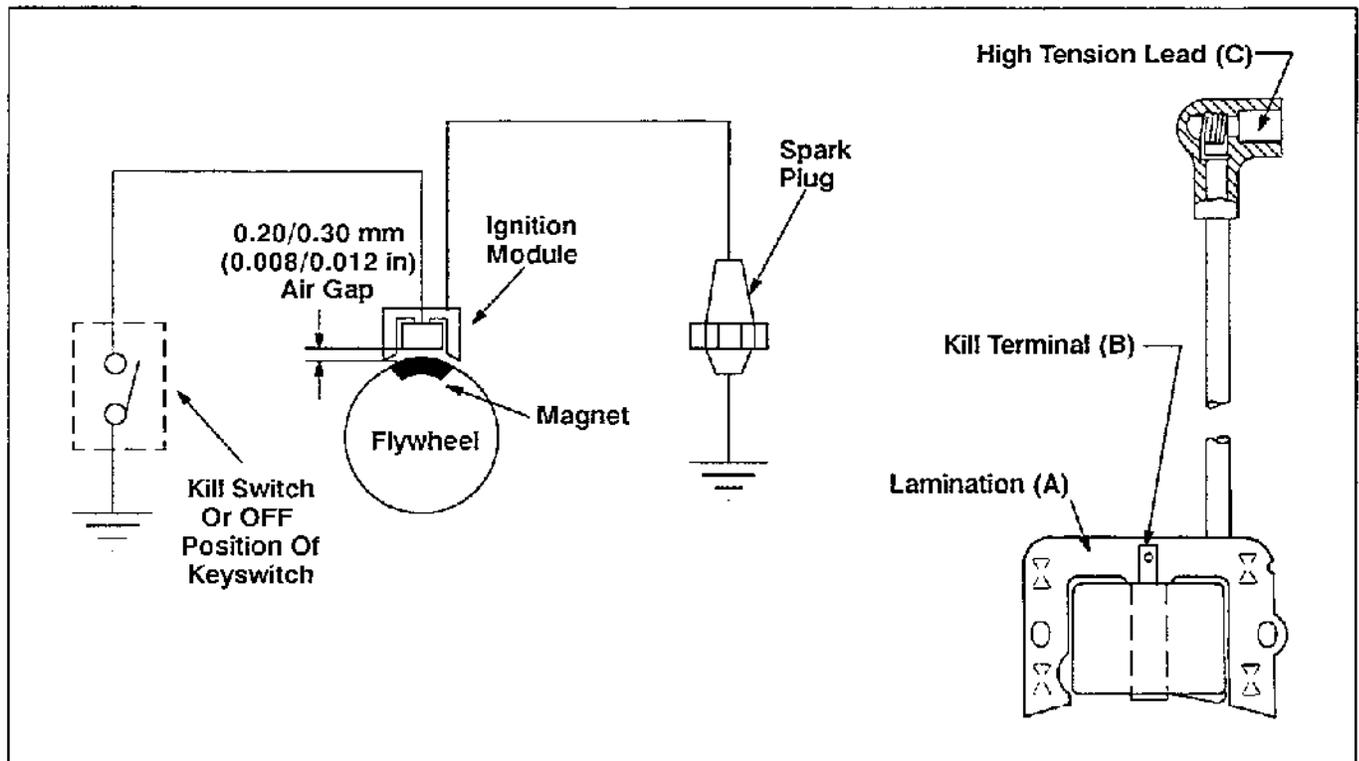

Figure 8-3. Electronic Magneto Ignition System.
<p>4b. Measure the resistance of module secondary using an ohmmeter (see Figures 8-3 and 8-4):</p> <p>Connect one ohmmeter lead to laminations (A). Connect the other lead to the spark plug terminal of high-tension lead (C). With the ohmmeter leads connected in this manner, the resistance of secondary should be 7,900 to 10,850 ohms.</p> <p>NOTE: This test cannot be performed unless module has been fired at least once.</p>	<p>If the resistance is low or 0 ohms, the module secondary is shorted. Replace the module.</p> <p>If the resistance is high or infinity ohms, the module secondary is open. Replace the module.</p> <p>If the resistance is within the specified range, the module secondary is OK.</p>